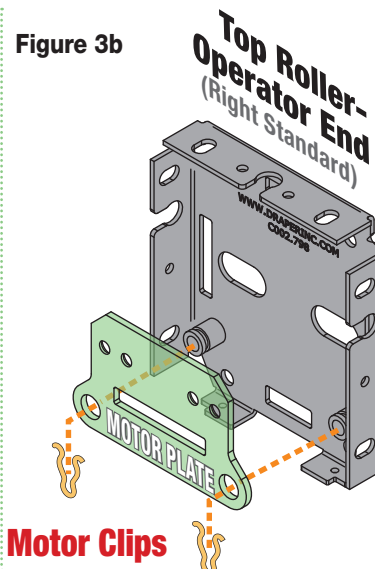

Figure 3b
3. Install Motor Plate (Figure 3b).